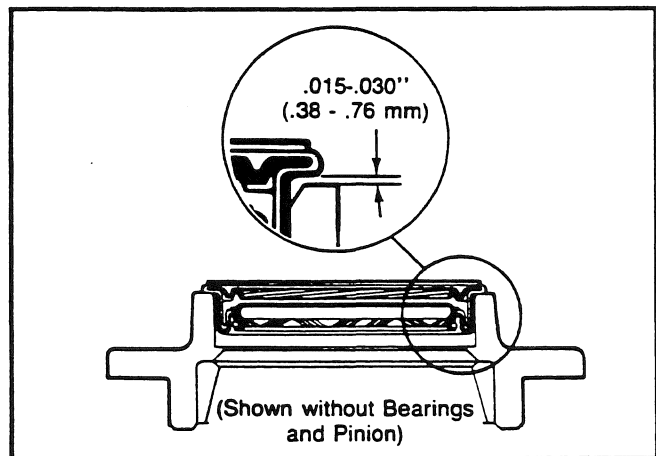

Fig. 44
10. After installing the seal, a gap of approximately 0.015 to 0.030 inch (0,38 to 0,76 mm) between the flange and bearing cage is normal (see Fig. 44). Check the gap with a feeler gauge at several points around the seal. The gap must be within 0.015 to 0.030 inch (0,38 to 0,76 mm). The difference between the largest and smallest gap measurement must not exceed 0.010 inch (0,25 mm).